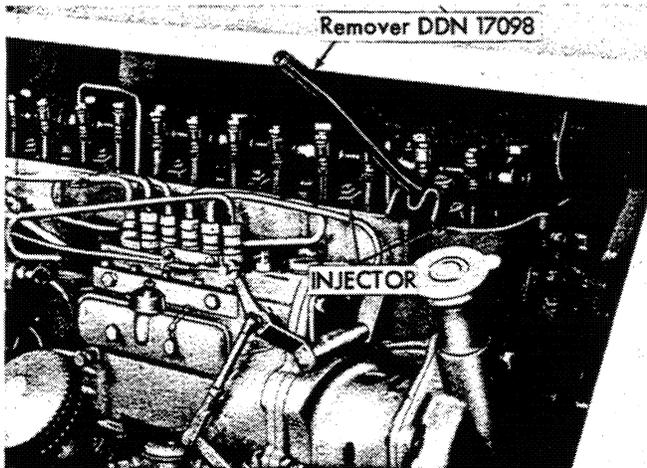

Figure 4
- c. Remove the two attaching bolts from each injector. Attach Injector Lifting Bar, EIADDN-17098, to the injectors as shown in Figure 4. Make sure the legs of the tool bear against the top edge of the cylinder head rather than the rubber injector seal. Remove the fuel injector and the injector seat washers and injector seals from the cylinder head.